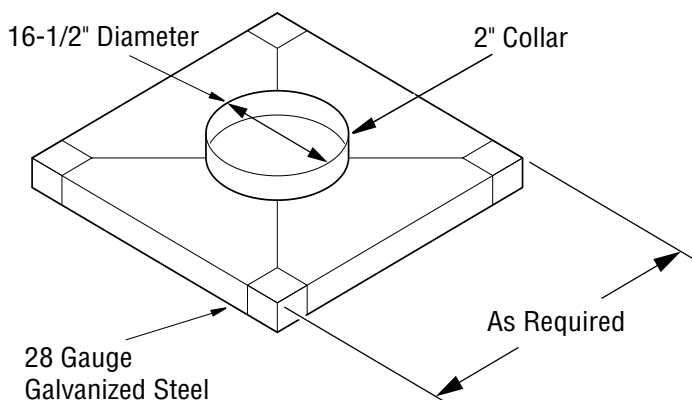

Figure 19 - Constructing Chase Top Flashing
3. Fabricate a flashing having a 16-1/2" diameter hole centered over chimney end with a 2" collar around hole (see Figure 19). Attach noncombustible spacers at each corner and place flashing over chase.